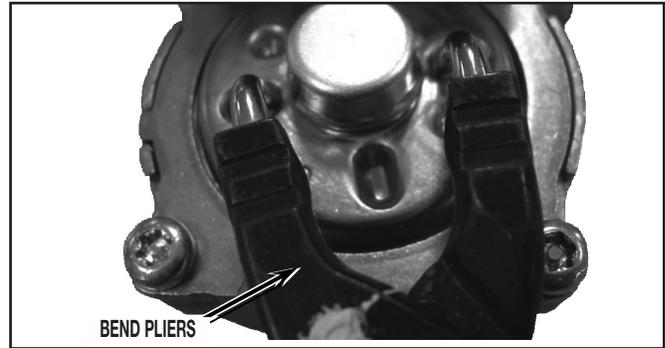

FIGURE 25
- Position a pair of bend pliers into the slots of the cover dial. See *Figure 25*.